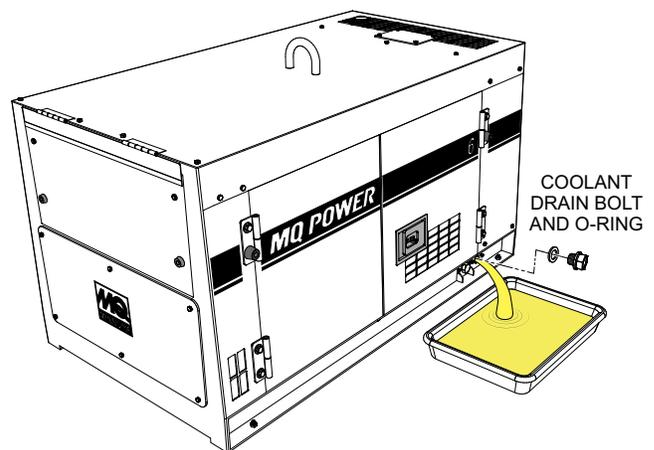

Figure 33. Coolant Drain Bolt
2. Remove the coolant drain bolt and O-ring (Figure 33), then allow the coolant to drain into a suitable container.